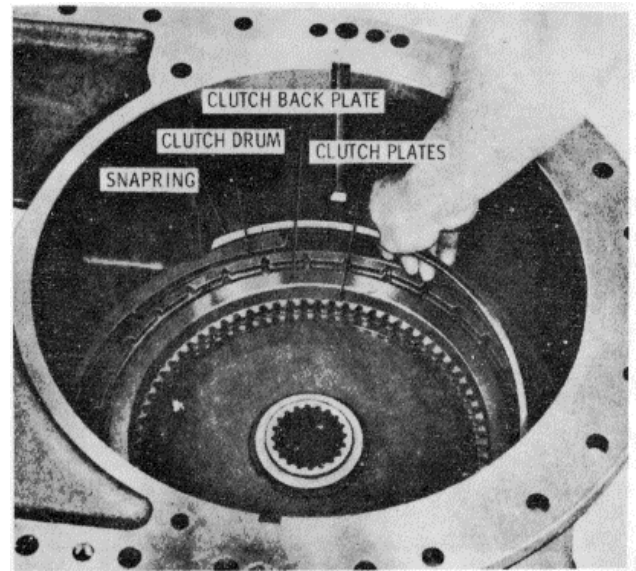

Figure 15-79. Removing Fifth-and-Sixth-Gear Clutch Backplate Snap Ring
13. Remove the large internal snap ring from the fifth-and sixth-gear clutch drum (Figure 15-79). Remove the fifth and-sixth-gear clutch backplate and five clutch plates from the clutch drum.